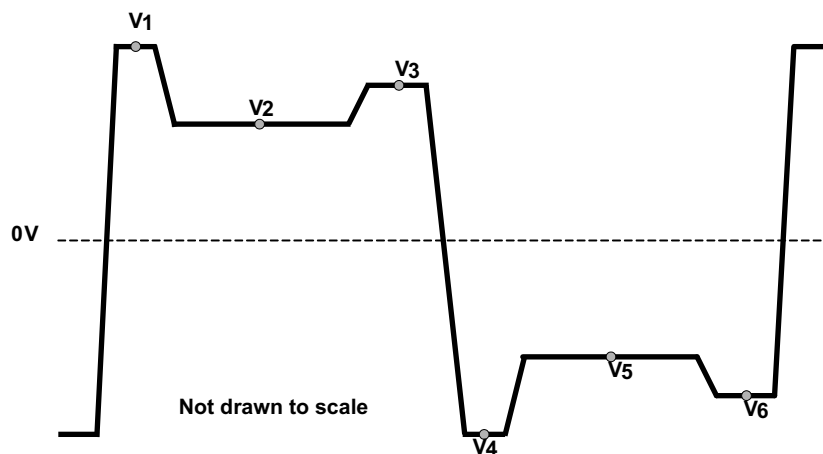
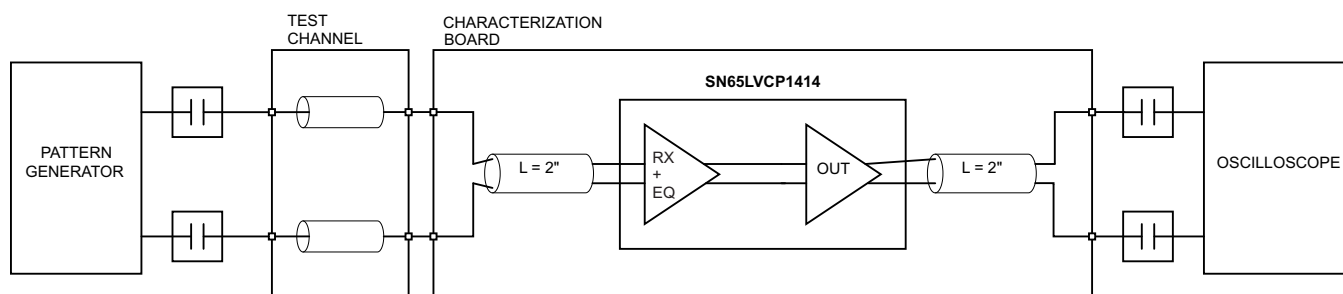
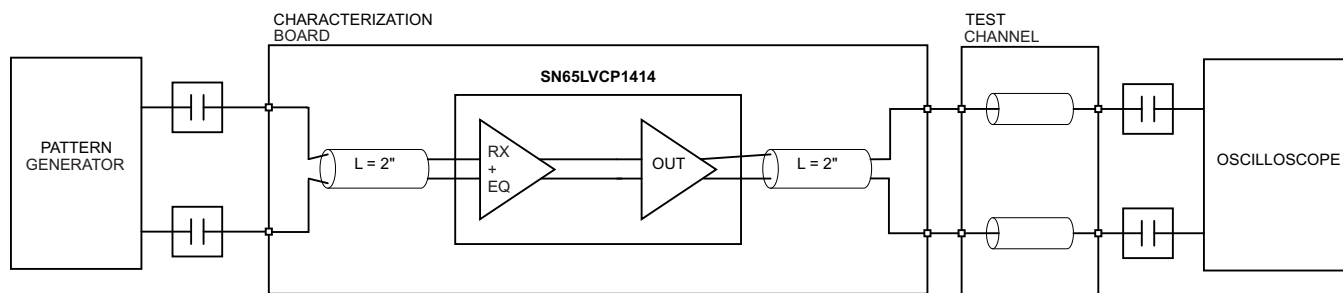

Figure 9. Vpre and Vpost (test pattern is 1111111100000000 (8-1s, 8-0s))
Figure 10. Receive Side Performance Test Circuit
Figure 11. Transmit Side Performance Test Circuit
(2) Rise and Fall measurements include board and channel effects of the test environment, refer to Figure 10 and Figure 11.
(3) t_{SK(O)} is the magnitude of the time difference between the channels.
(4) t_{SK(PP)} is the magnitude of the difference in propagation delay times between any specified terminals of two devices when both devices operate with the same supply voltages, at the same temperature, and have identical packages and test circuits.
(5) All noise sources added.
Regarding timing, the SN65LVCP1414 is I^2C compatible. The typical timing is shown in Figure 9 and a complete data transfer is shown in Figure 10. Parameters for Figure 9 are defined in Table 3.